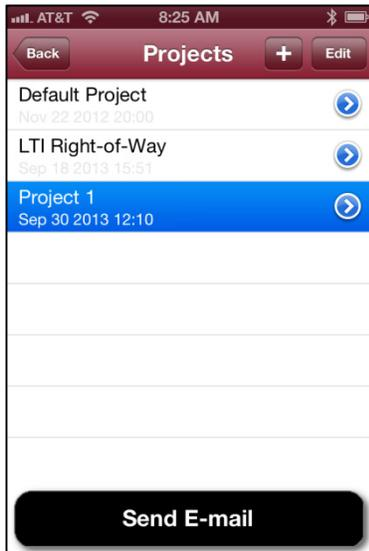

Figure 33
1. From the Projects List screen, tap the  button in the upper right-hand corner (Figure 33). Minus signs will appear next to each project in the list.